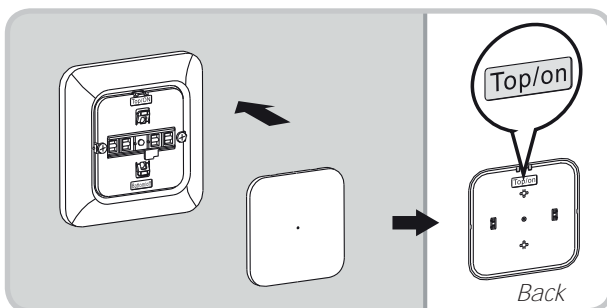

Fig. 13
- Press the push button in to place on the insert (see Fig. 13).